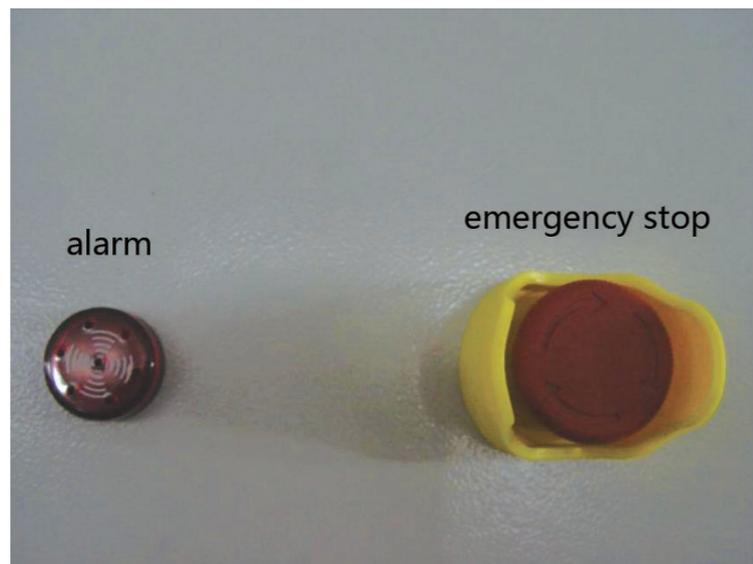

Figure 5.2 Emergency Stop on Cabinet Door
10) Check "bus voltage page" to ensure unit bus voltages are balanced (voltage difference <50V). Turn on the Emergency Stop button on the cabinet door (Figure 5.2) and press the Switch On button on button monitoring page to turn the device from charging status to readiness status. At that time, the "Ready" light on device monitoring page turns on.